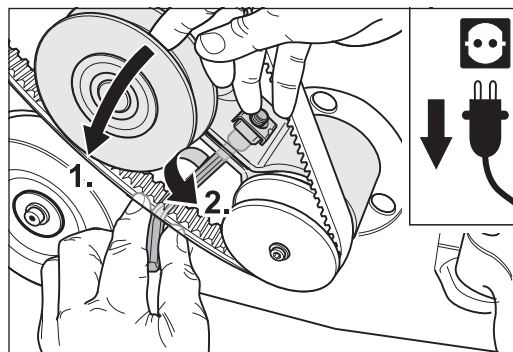

Fig. 66 By turning the tensioner, tighten the smaller V-belt (1.) and carefully tighten the clamping screw (2.).
- 7 By turning the tensioner, tighten the smaller V-belt (Fig. 66, 1.) and carefully tighten the clamping screw (Fig. 66, 2.).